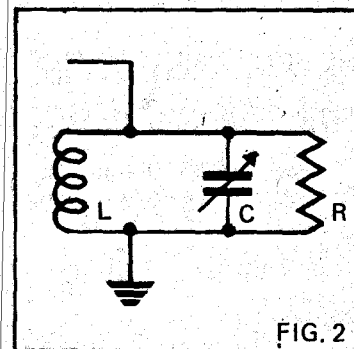

FIG. 2
Electrical connection is made between the ends of the conductors on one face and the ends on the other so that a wave winding is formed. The 'chevron' part of each conductor is the "useful" portion which passes under the poles — all the 'forward' conductors, (shown with heavy lines in Fig. 2) are on one face whilst the "return" conductors (dotted) form the face on the reverse side.
The first block, labeled 'RF' is an amplifier, which both amplifies and selects the desired signal from amongst the myriad of radio waves present in the vicinity of the receiving antenna. The "selection" part of the process is accomplished by the use of one or more (sometimes as many as five or even six) "tuned circuits", sometimes called resonant circuits which, regardless of their "schematic diagram" complexity, can always be resolved into a combination of L (inductance), C (capacitance) and (R) resistance as shown in Fig. 2.